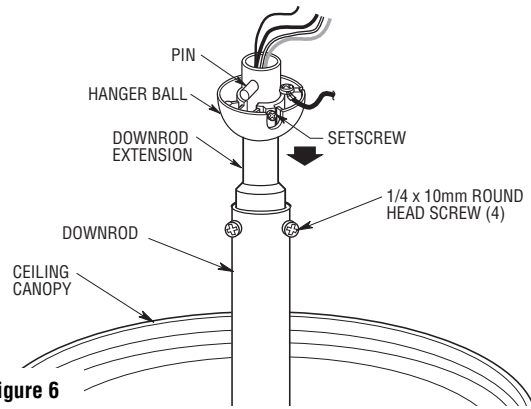

Figure 6
- 10. Route the motor lead wires and support wire through the downrod extension and the hanger ball (Figure 6).
- 11. Securely attach the downrod to the downrod extension/hanger ball using the four 1/4 x 10mm round head screws (supplied in the downrod assembly bag) (Figure 6). The round head screws must be fully tightened into the downrod extension. A loose downrod will result with fan assembly noise and vibration.